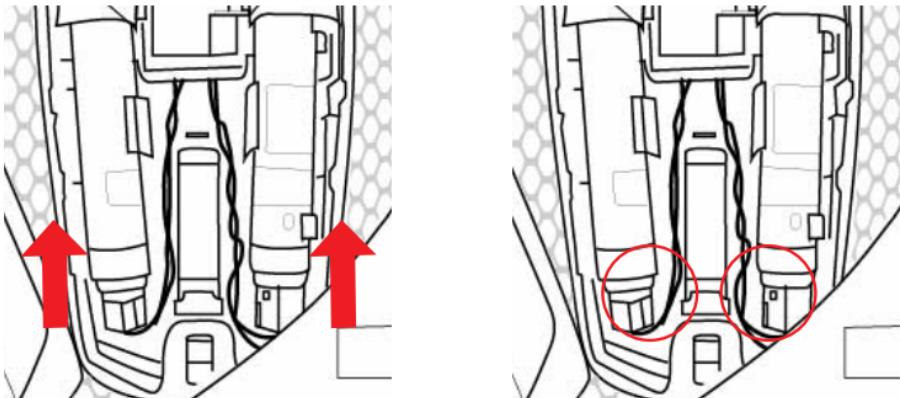
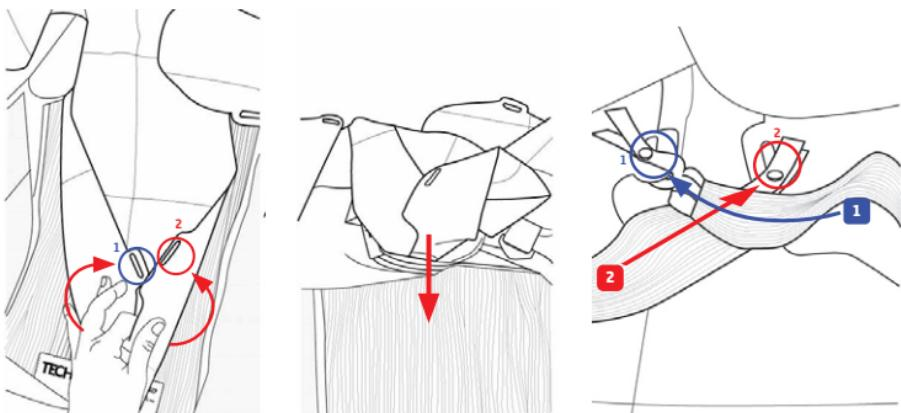
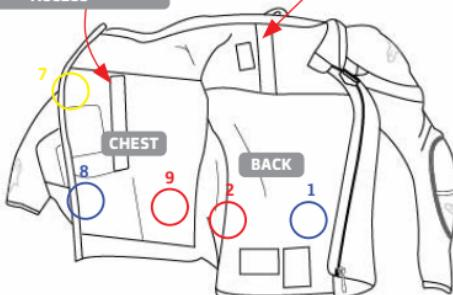

Figure 25: How to detach the Removable Inflators Housing (18) from the System by pulling it up
Figure 24
Figure 28: Clip locations on the Airbag (left) and on the System's Base Layer (5) (right)
1. First place the System with the back facing down on a flat surface, preferably a workbench or table. Detach the Airbag from the Base Layer (5) by opening all the connection clips arranged as shown in Figure 28. The User can access these connections via the Base Layer (5) openings indicated in Figure 28. There are a total of 10 Airbag clips which are distributed and numbered as indicated in Figure 28: 3 clips on the Left Shoulder area (clips 3-4-5), 2 clips on the Right Shoulder area (6-10), 3 clips for the Chest area (7-8-9) and 2 clips for the Back Area (1-2). It is suggested to detach these clips in sequential order, beginning with clips located on the lower back (1-2), then moving to the clips on the shoulders(3-4-5, and 6), then to the clips on the chest (7-8-9) and finally to the last clip number-10 on shoulder (see Figure 28).
2. Once all the Airbag clips have been detached, first turn the System with the backprotector facing upwards, open the lower zip of the Hydration Bag Container (9) and the Electronic Case (16) positioned in the back area of the System by pulling down on the red pull tab with your right hand and lifting up the Electronic Case with your left hand simultaneously.
3. Once the Electronic Case (16) has been lifted up, the User can detach all the Electronics components (13-15-19) along with the Gas Inflators (17) by simply pushing up the Removable Inflators Housing (18) (see Figure 25). The User can do this by putting their two thumbs at the bottom of the little black box which contains the Electronic Control Unit that it located at the top of the Housing, and pushing firmly upwards until it clicks, and then the User can easily lift it up out of the Removable Inflators Housing (18).
The User may start to gently pull the entire Airbag out of the Tech-Air® System, until it is completely removed. Next, the User must remove the LED Display (4) from its location. Now, turn the System on its back with the back protector facing downwards. Put your hand into the System from the opening under the inner lining on the left chest of the System. Bring your hand up to the loop on the right shoulder and remove the Electronic Connector cable plug by pulling it out through the loop. Next open the Velcro pocket on the left chest so you can access the Haptic Vibration Area (3). The User must now remove the Activation Zip Sensor from the pocket. Next, the User must pull the cable down through the Haptic Vibration Area (3) access hole on the left side until the entire cable has been removed (see reference in Figure 28). Next the User must open the Velcro found on the left wing of the chest protector and remove the LED Display (4). At this point, all of the Electronic components (13-15-19) should have now been completely removed from the System.
- First, place the System with the Back Protector facing up. The User must reinsert the Airbag through the opening in the Back Protector, taking care to position the Airbag correctly (it is critical that the User avoid twisting or creating folds of the Airbag). Insert the Airbag inside the System with the utmost attention to ensure that each clip is meticulously matched by color and number to the exact corresponding Connection Clip inside the System. The User MUST anchor the Airbag on ALL 10 of the Connection Clips as shown in Figure 28. It is suggested to do this operation with the Gas Inflators (17) positioned in the corresponding Removable Inflators Housing (18). In order to attach the Airbag to the corresponding Connection clips, the User should use the front Base Layer (5) openings by matching the numbered and coloured labels on both the Airbag and on the System's Base Layer (5), (see Figure 28). Please notice that Connection Clips 4 and 10 have double coloured blue and red labels, (make sure when attaching the Connection Clips that the red side is matched to the red side and the blue side is matched to the blue side), in order to help the User to attach the Airbag in the correct orientation.
WARNING! The lower Back Clips (1 and 2) have to be attached in a criss-cross fashion, as reported in the figure 24 below, making an X on the back of the Airbag, this ensures that the Airbag is well anchored. The lower Back Clips (1 and 2) will therefore be attached to the opposite clips with respect to the back view, and as a result the Users should see a slightly folding of the bottom borders of the Airbag. Referring to the frontal view, clip 1 MUST be attached to the left clip and clip 2 MUST be attached to the right clip, as reported in Figure 28.